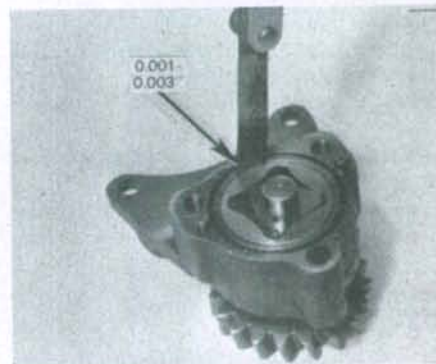
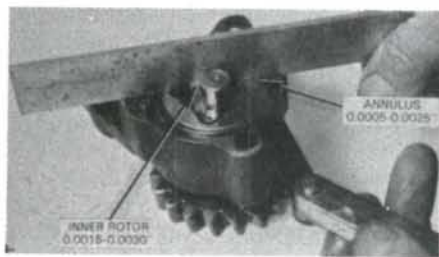

Fig. 81—Clearance between outer rotor (annulus) and body should be measured with feeler gage.
Fig. 82—End clearance of inner rotor and outer rotor (annulus) should be within recommended limits.
0.063 mm (0.0005-0.0025 inch). Outer rotor (annulus) to body clearance (Fig. 81) should be 0.025-0.076 mm (0.001-0.003 inch). Check rotor end clearance with a straightedge and feeler gage as shown in Fig. 82. End clearance of inner rotor should be 0.038-0.076 mm (0.0015-0.0030 inch), and end clearance of outer rotor should be 0.013-0.063 mm (0.0005-0.0025 inch).